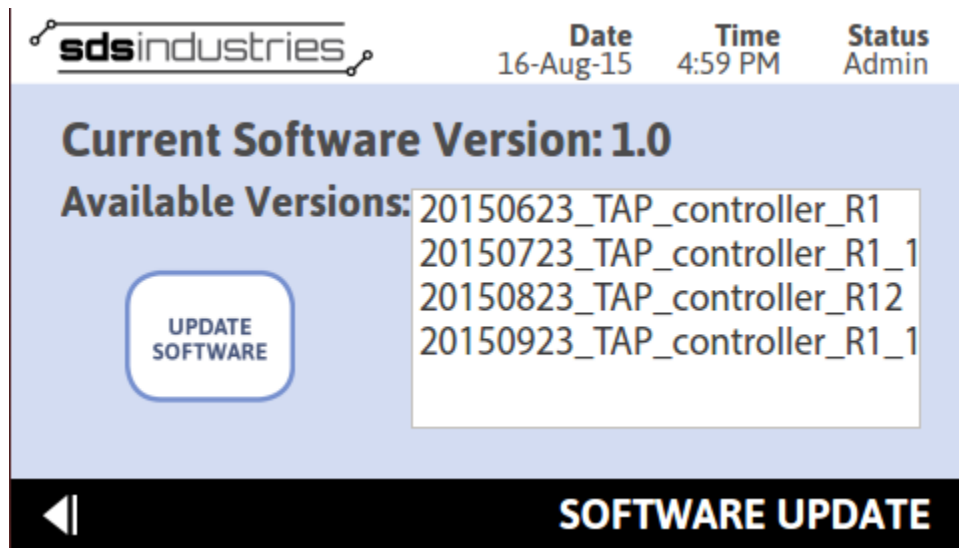

Figure 42 - Software Update
- From Main Menu, press SOFTWARE UPDATE (Figure 42 - Software Update)